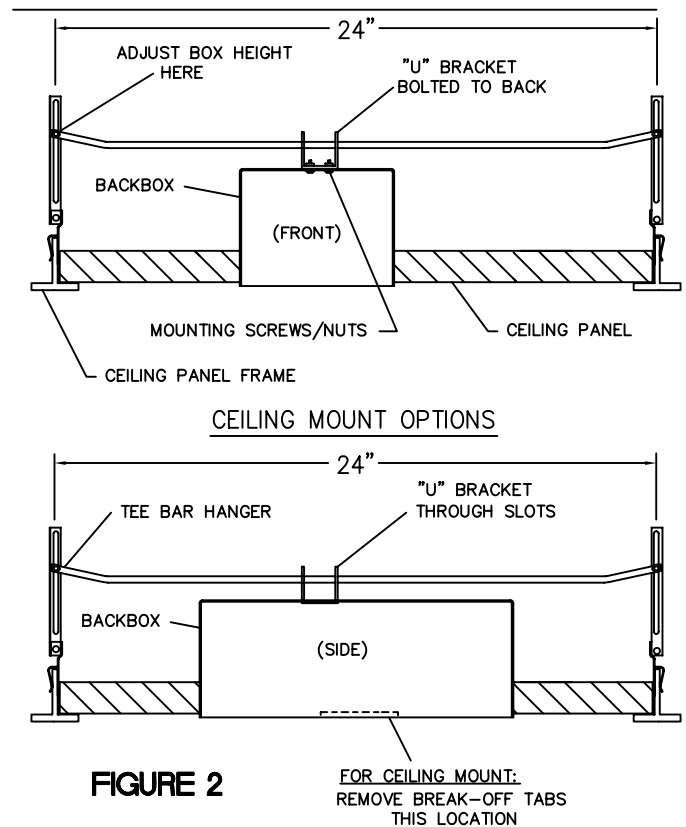

FIGURE 2
B. CEILING MOUNTING (See Figure 2)